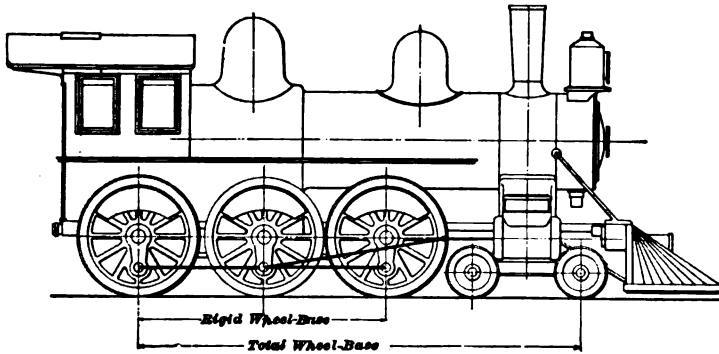

FIG. 9.
3. *Ten-Wheeled*.—This type, illustrated in Fig. 9, has six drivers and a four-wheeled truck.